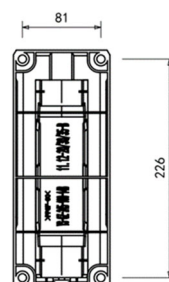

Fig.2
3. Take the mounting bracket as a template to mark the position for screws and drill four holes on the wall (Fig.2)